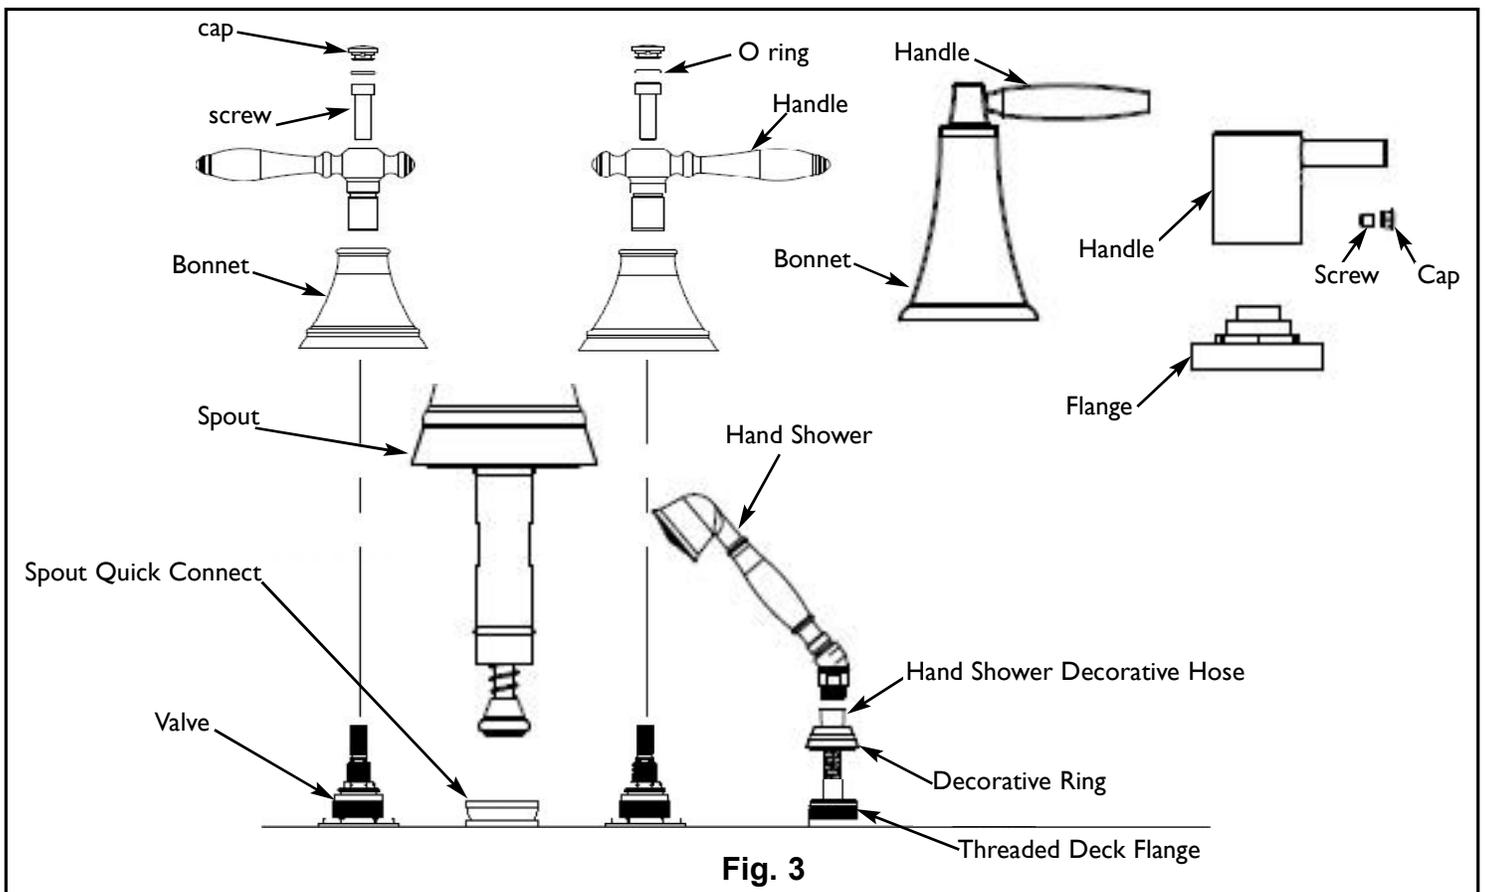

Fig. 3
2. Slide Spout into Spout Quick Connect (re-grease if necessary). Make sure spout is flush with deck and secure into place with setscrew. See **Figure 3**.